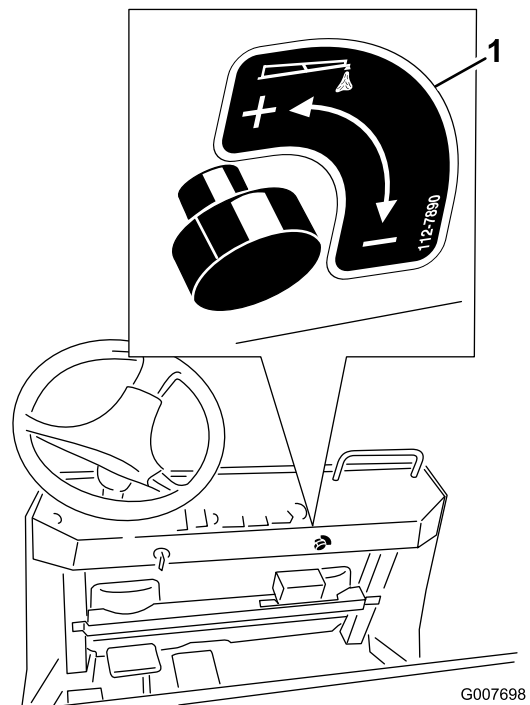

Figure 25
10. Install the decal as shown in Figure 25.